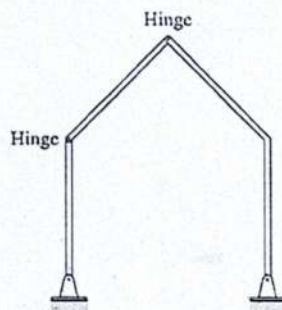

Figure: 13
- Classify each of the given structures (figure 13 and 14) as externally unstable, statically determinate, or statically indeterminate. If a structure is statically indeterminate externally, determine its degree of external indeterminacy. 02